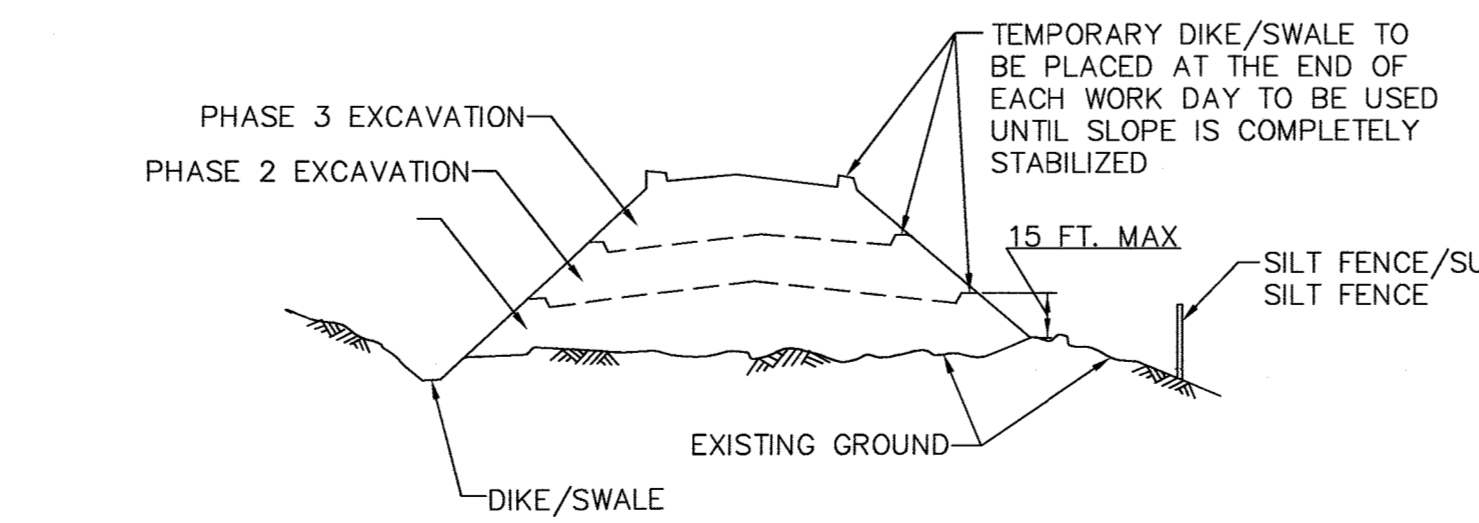

FIGURE B.2: INCREMENTAL STABILIZATION - FILL
- D. CONSTRUCTION SEQUENCE EXAMPLE (REFER TO FIGURE B.2):